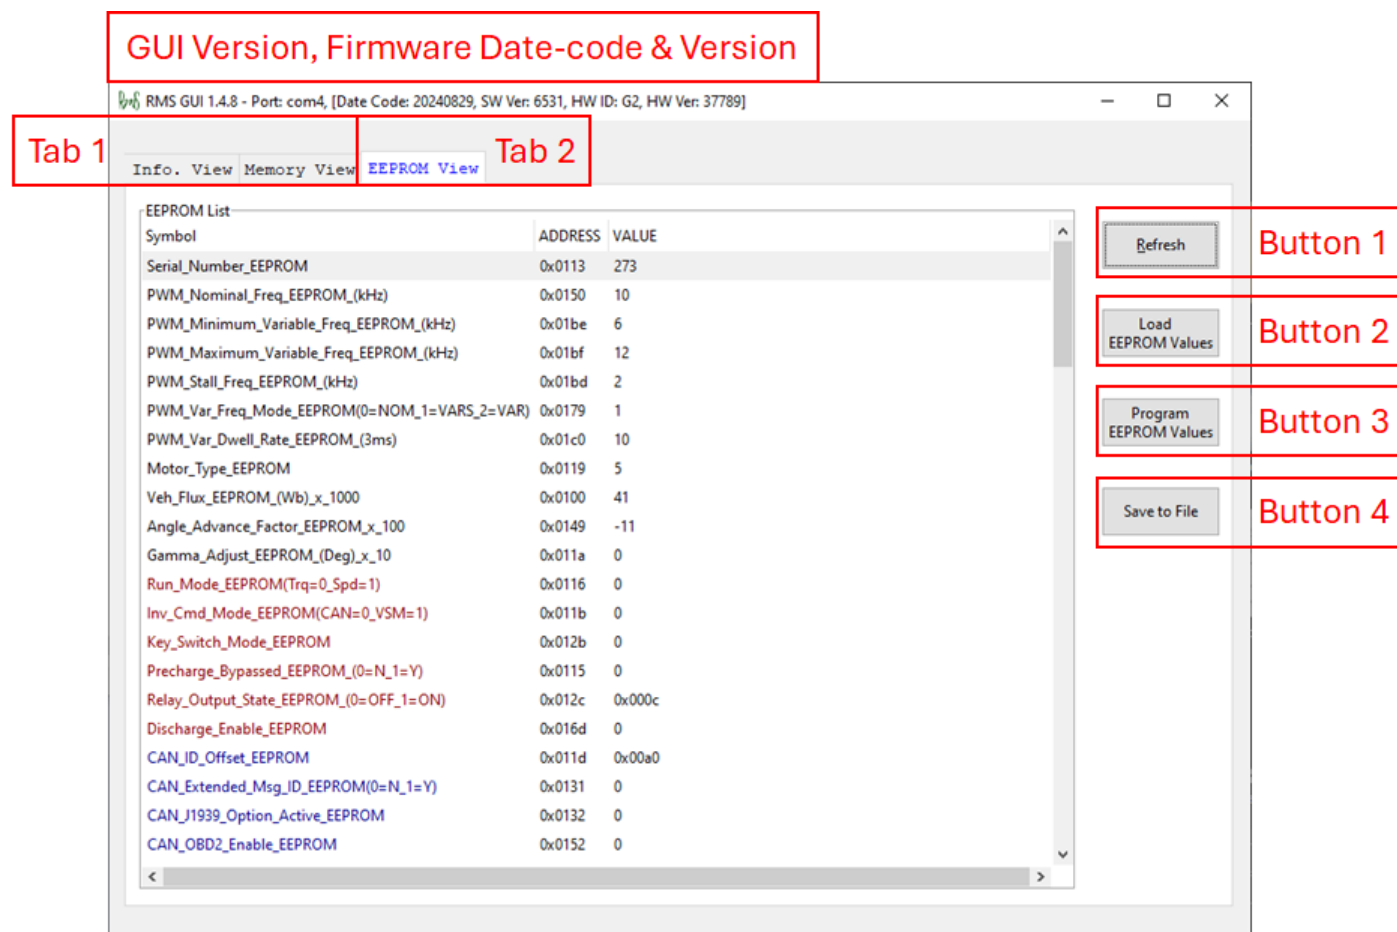

Figure 5: Uploading EEPROM Values
- Click on the EEPROM View tab (labeled ‘Tab 2’ in figure 5). This will display all EEPROM parameters that can be programmed by the user.
- When all values are changed, click on the Program EEPROM button (labeled ‘Button 3’ in figure 5).
You can also load a predefined set of values by using the Load EEPROM Values button (labeled ‘Button 2’ in figure 5).